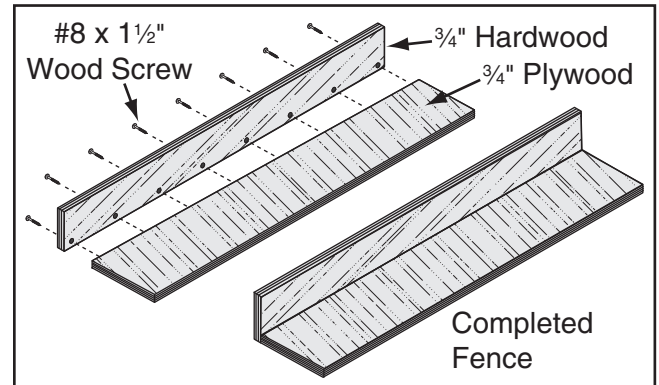

Figure 89. Location of pilot holes.
2. Pre-drill and countersink eight pilot holes $\frac{3}{8}$ " from the bottom of the 3" wide board, then secure the boards together with eight #8 x 1 $\frac{1}{2}$ " wood screws, as shown in **Figure 89**.